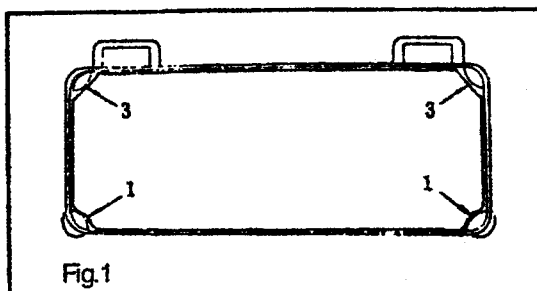

Fig.1
- 2) Two rubber seats ① for supporting the head portion on the operator side A are fixed on the extended portion of the table by hitting the nail ②, and the other two rubber cushion seats ③ on the hinge side B are fixed by using a rubber-based adhesive. Then, oil pan ④ is placed.(Fig.1,2)